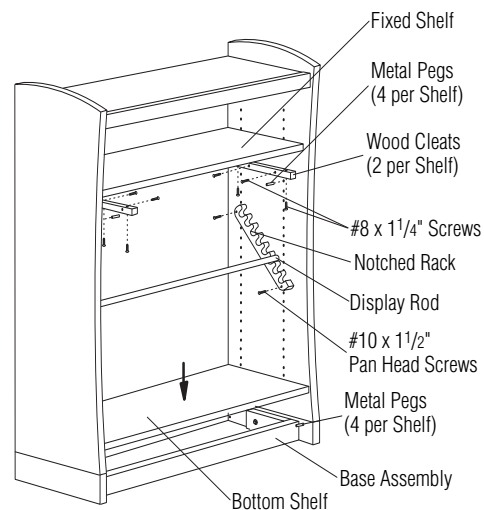

Figure 7
11. Bottom shelf. Insert (4) metal pegs into pre-drilled holes just above the base assembly. Lay bottom shelf with routed side down and align onto metal pegs (Figure 7).
12. Attach wood cleats to the bottom side of the fixed shelf using #8 x 1/4" screws. One cleat is needed for each side of shelf. Rest shelf on four metal pegs. Attach fixed shelf with cleats to the end panels using #8 x 1/4" screws (Figure 7). **Note:** for 60" high units, fixed shelf is approximately 43 3/4" from top of the bottom shelf. For 82" high units, fixed shelf is approximately 50 13/16" from top of the bottom shelf.
13. Adjustable shelves for 82" high units only. Insert (4) metal pegs into pre-drilled holes at desired adjustable shelf heights. Set each shelf onto the metal pegs with routed side down (routed grooves rest on pegs) (Figure 7). **Note:** each 82" high unit has one adjustable shelf and one fixed shelf. Each 60" high unit has only the one fixed shelf.